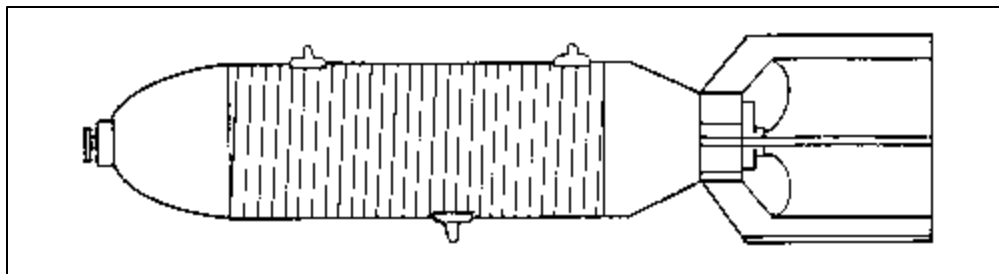

Figure 19. Frag bomb.
- (4) Frag bombs are used against personnel and against light and heavy materiel. These bombs project high-speed fragments of a square steel bar that was wrapped in a spiral to form the bomb body, as shown in Figure 19.